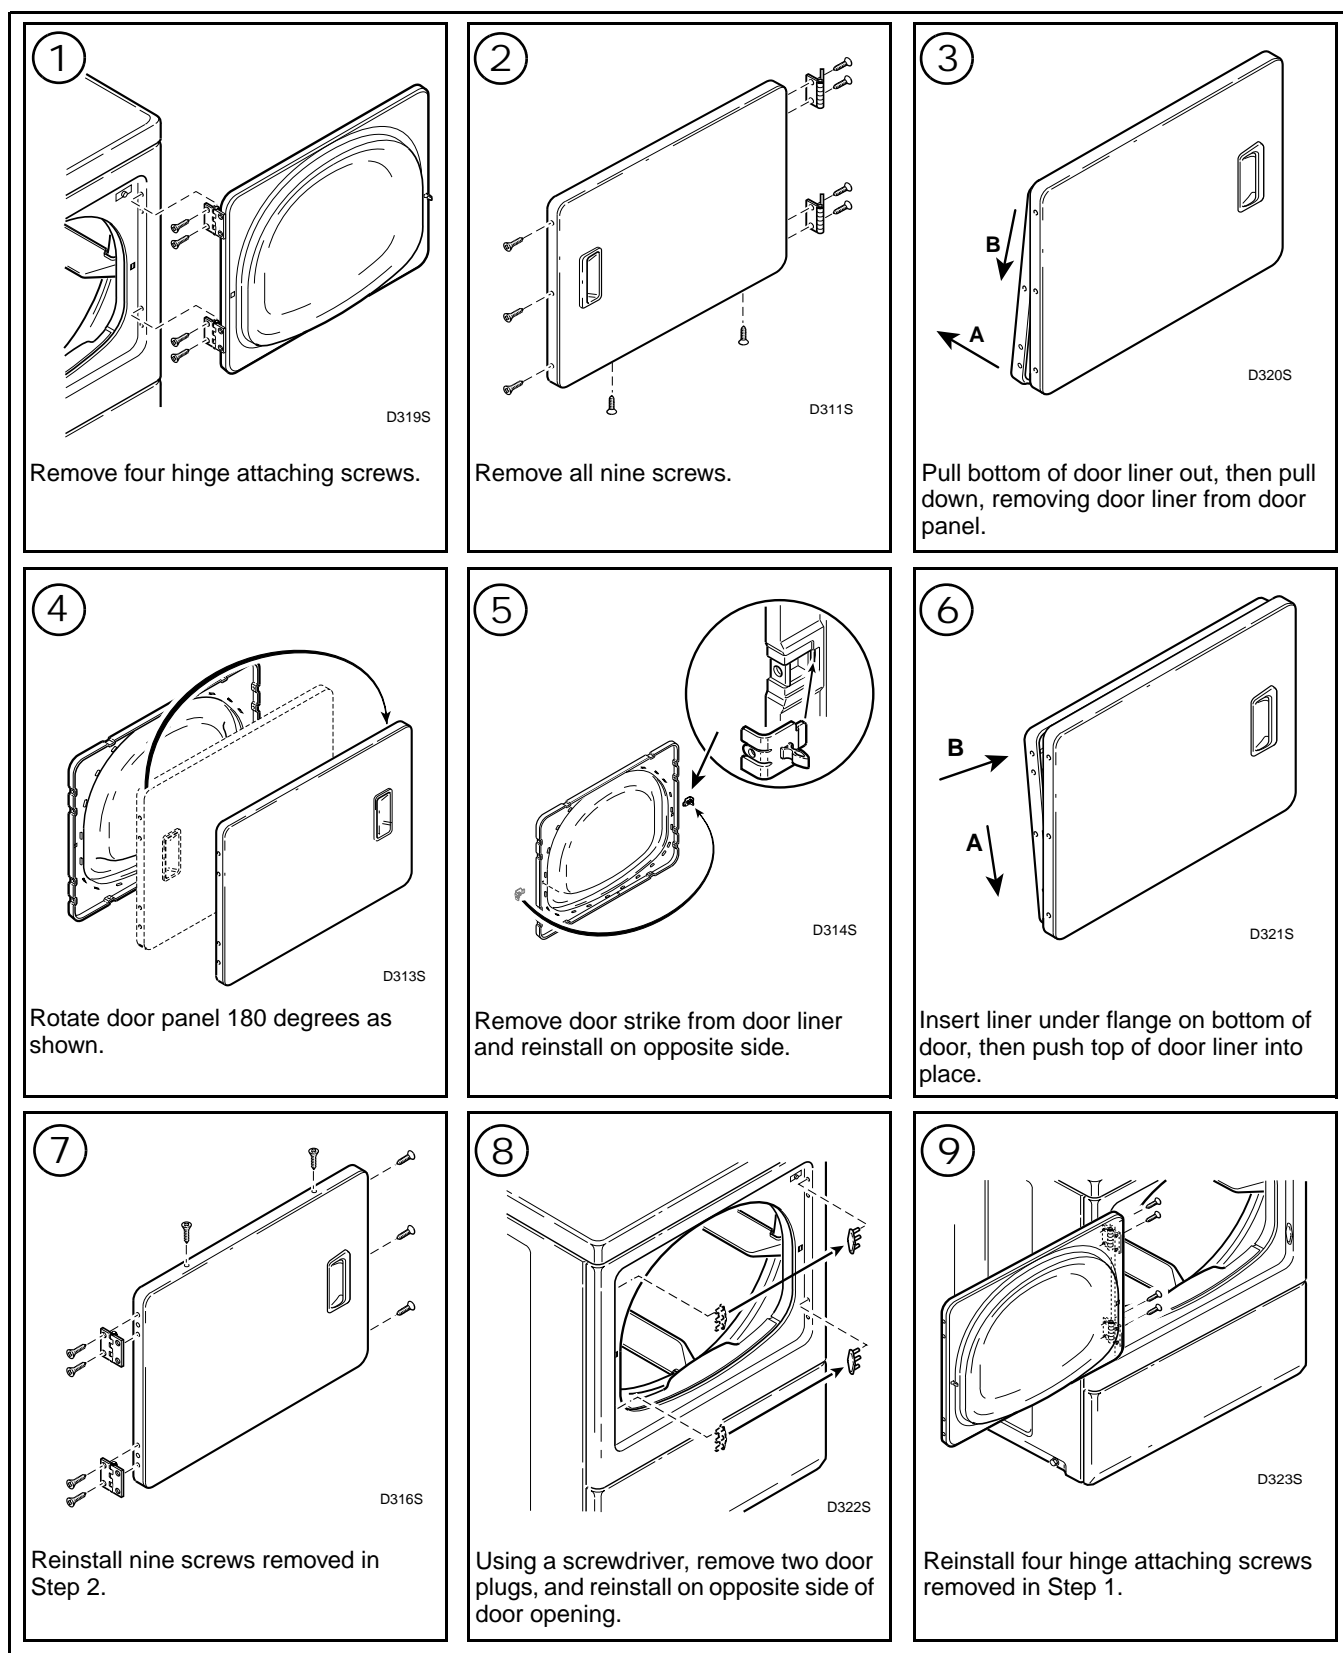

Figure 9
- Remove remaining screws around the door perimeter and separate panels. See *Figure 9*.